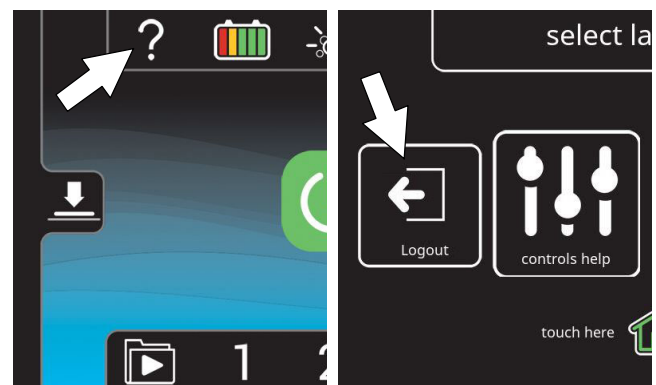

FIG. 164
7. When the user is done operating the machine, it is recommended the user log out by pressing the help button, and then pressing the logout button (Figure 164). Turning the key to the off position is another way to also logout